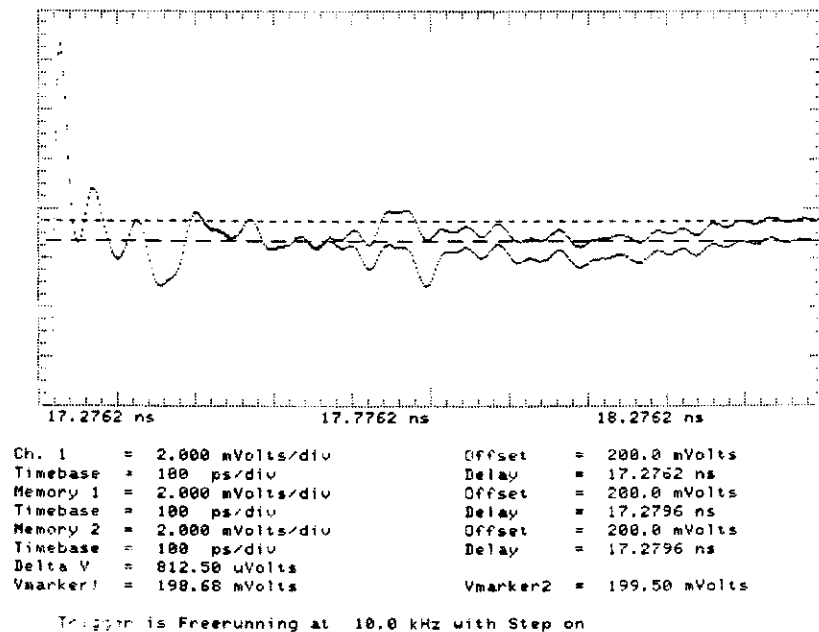

Figure 3-5. Incident Step With Two Different 50 Ω Terminations, Top Trace dc Resistance = 50.34 Ω , Bottom Trace dc Resistance = 49.91 Ω
The dc resistance of a nonperfect 50 Ω termination will effect the on-screen final value. Figure 3-5 shows the first 1 ns after the incident step using two different 50 Ω terminations. Notice the two traces are coincident for approximately the first 500 ps until the 50 Ω termination is encountered. The two traces finally settle with a constant level shift between them. The amount of the level shift is dependent on the dc resistance variation between the 50 Ω terminations used.
22. Select the Delta V menu and adjust marker 2 to the lowest point of the signal on the screen. **DO NOT** include the rising edge of the signal. If this point is to the left of the stop marker, then subtract the final value obtained in step 12 from V(2) and record that value in step 23 (round to the nearest 0.01mV). Refer to figure 3-5. V(2) _____ mV Example 196.75 mV